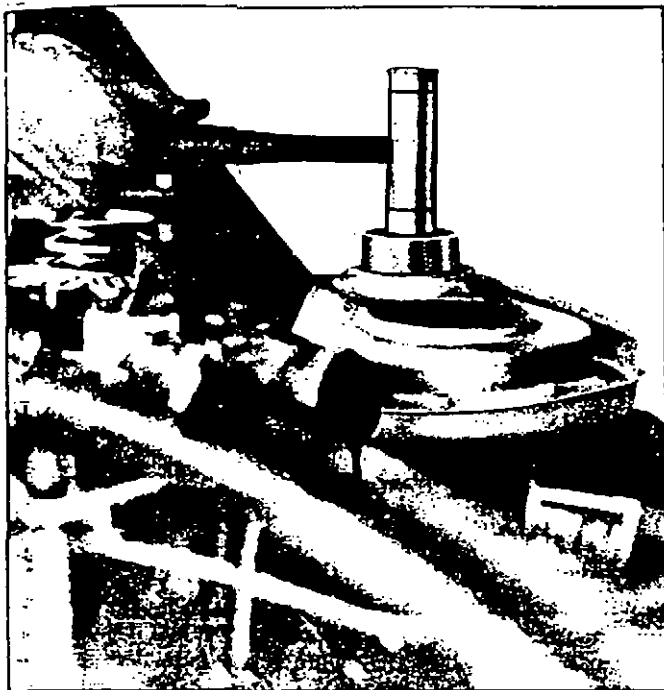

Fig. 14L—Installing Oil Seal (Cover Installed)
2. Install new seal so that open end of seal is toward the inside of cover and drive it into position with Tool J-8340 (fig. 14L).